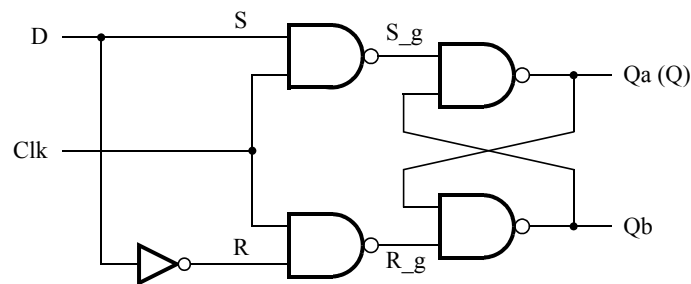
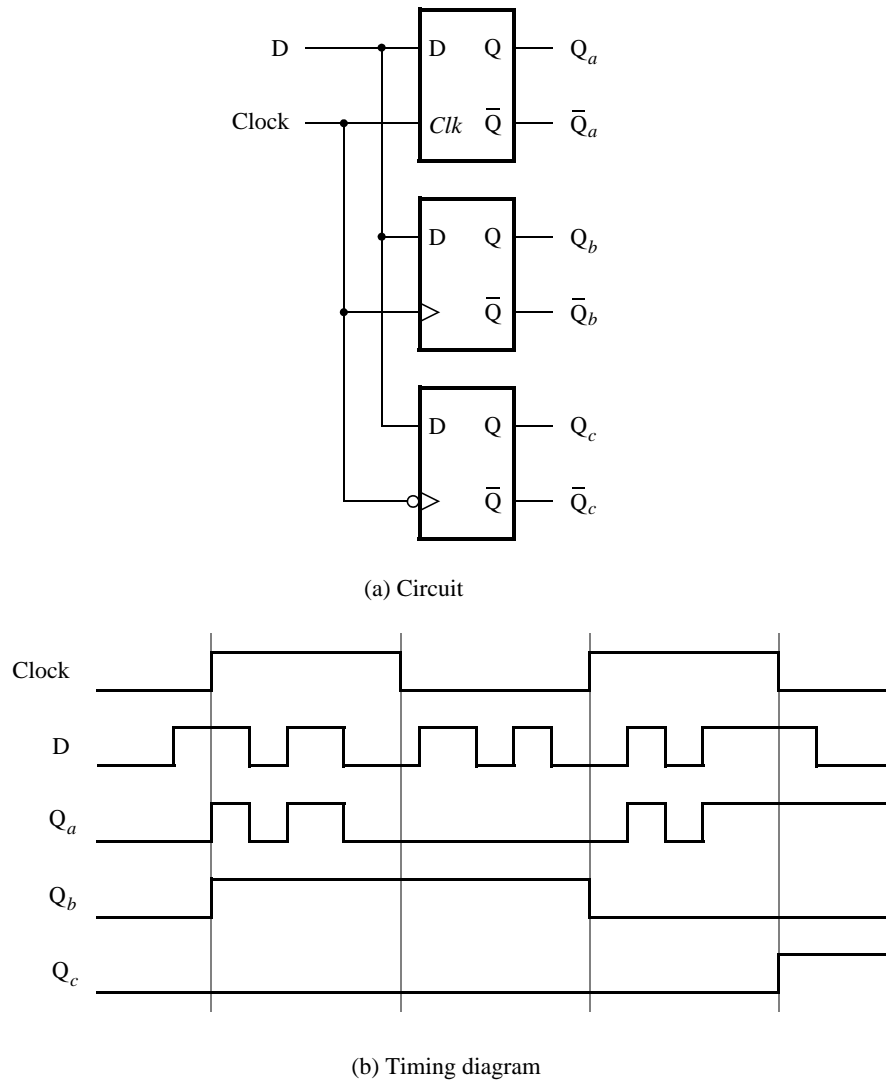

Figure 6: Circuit for a gated D latch.
Figure 8: Circuit and waveforms for Part IV.
Figure 6 shows the circuit for a gated D latch.
Figure 8 shows a circuit with three different storage elements: a gated D latch, a positive-edge triggered D flip-flop, and a negative-edge triggered D flip-flop.
2. Write a Verilog file that instantiates the three storage elements. For this part you should no longer use the `/* synthesis keep */` directive from Parts I to III. Figure 9 gives a behavioral style of Verilog code that specifies the gated D latch in Figure 6. This latch can be implemented in one 4-input lookup table. Use a similar style of code to specify the flip-flops in Figure 8.
4. Use Modelsim to simulate the circuit you created. Use the included testbench file to specify the inputs D and $Clock$ as indicated in Figure 8. Make sure that the testbench correctly instantiates the module you created and run the simulation to observe the different behavior of the three storage elements.